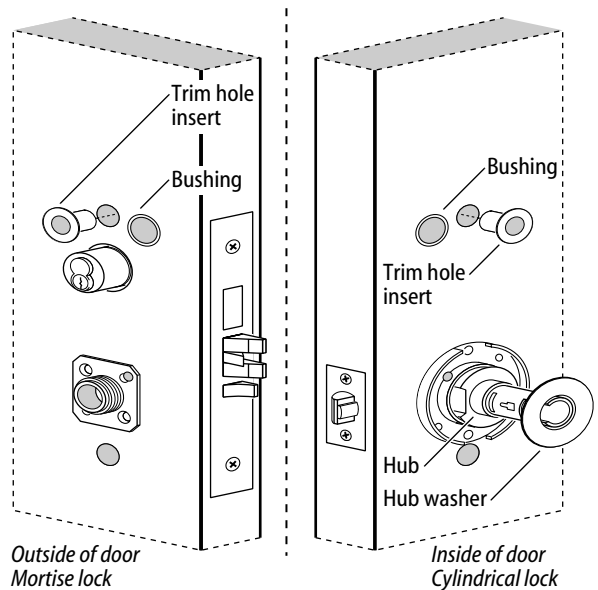

Figure 8 Installing the trim hole inserts, bushings, and hub washers
- 1 Insert the two trim hole inserts into the upper trim hole on each side of the door, as shown in Figure 8.
- 2 Make sure the two bushings are inserted into the harness hole on each side of the door, as shown in Figure 8.